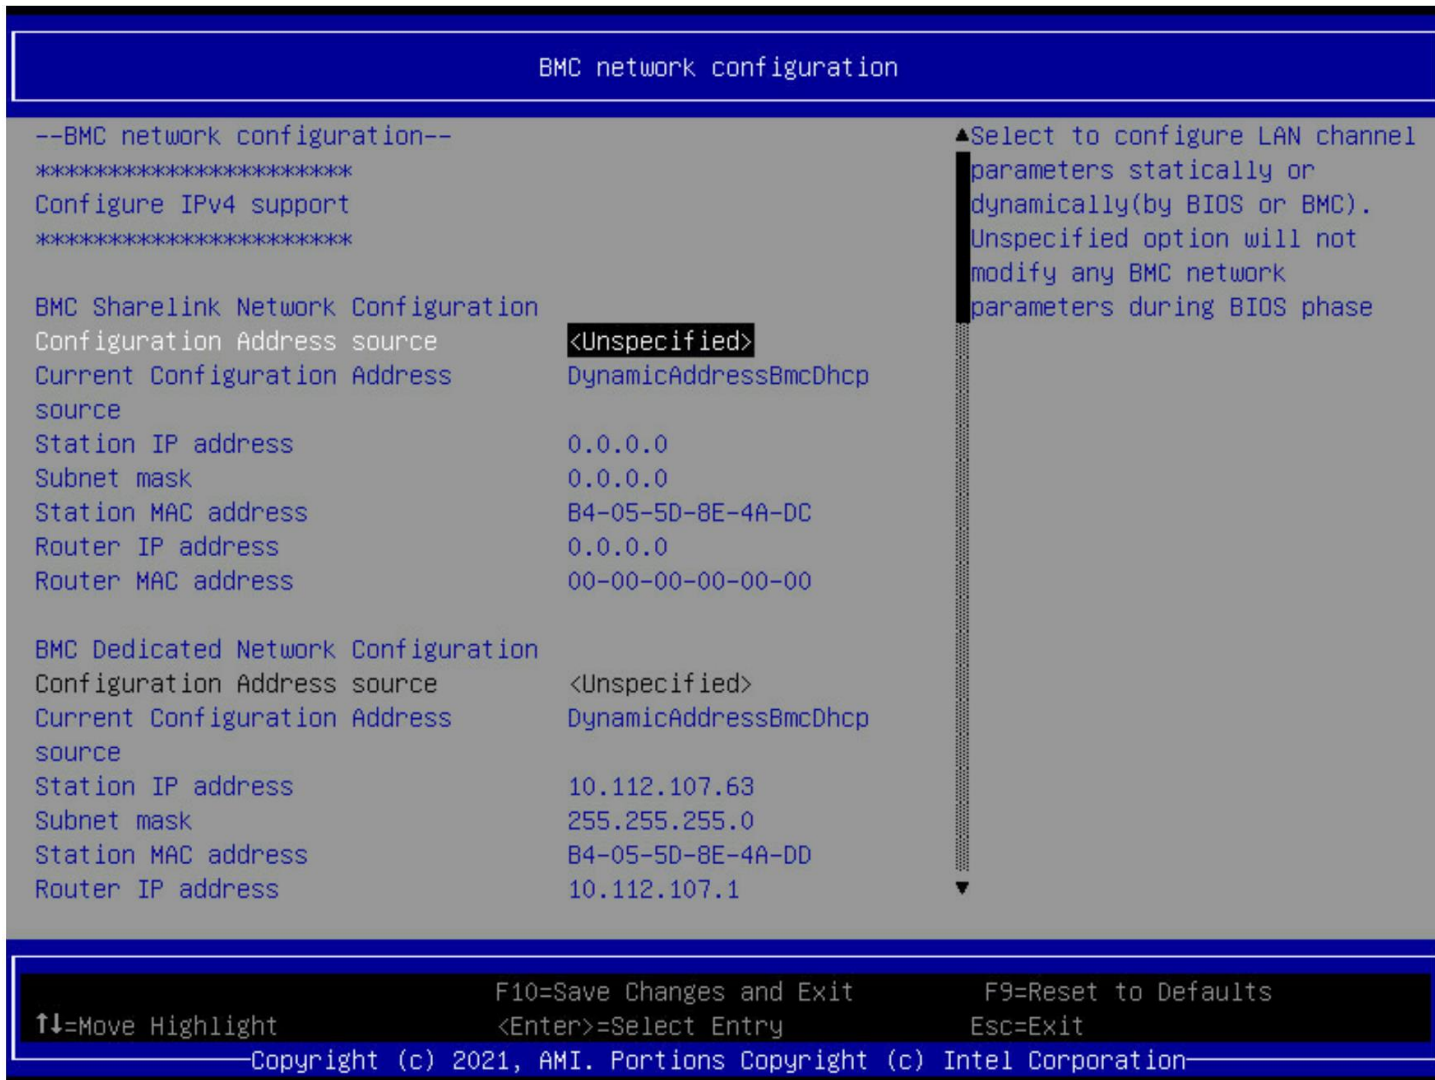

Figure 9. BIOS Setup BMC LAN Configuration Screen
2. Navigate to the **Server Mgmt** tab and select **BMC network configuration** to enter the **BMC network configuration** screen (see Figure 9).